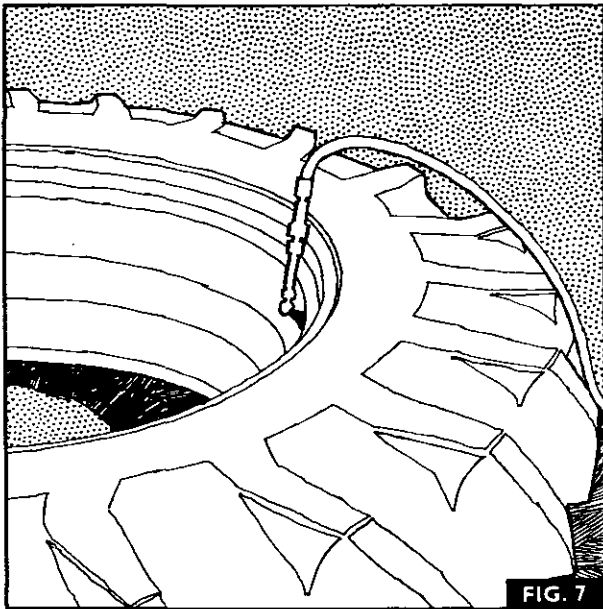

FIG. 7
3. Fig. 7. Centre the tyre on the rim and inflate to approx. 2,5 kg/cm2 (35 lb/in2).